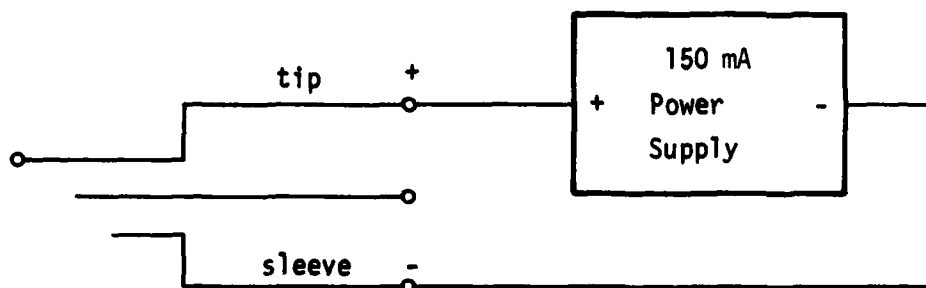

FIGURE 11
- a. The battery charging plug schematic is shown in Fig. 11.